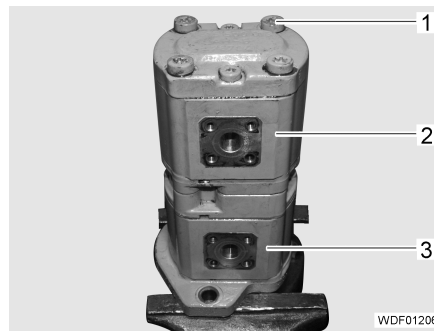

Fig. 153 Gear pump housing
- Unscrew the 4 screws (Fig. 153,1).
- Remove pump A (Fig. 153,2) and place it aside.
- Carefully place pump B (Fig. 153,3) to one side.